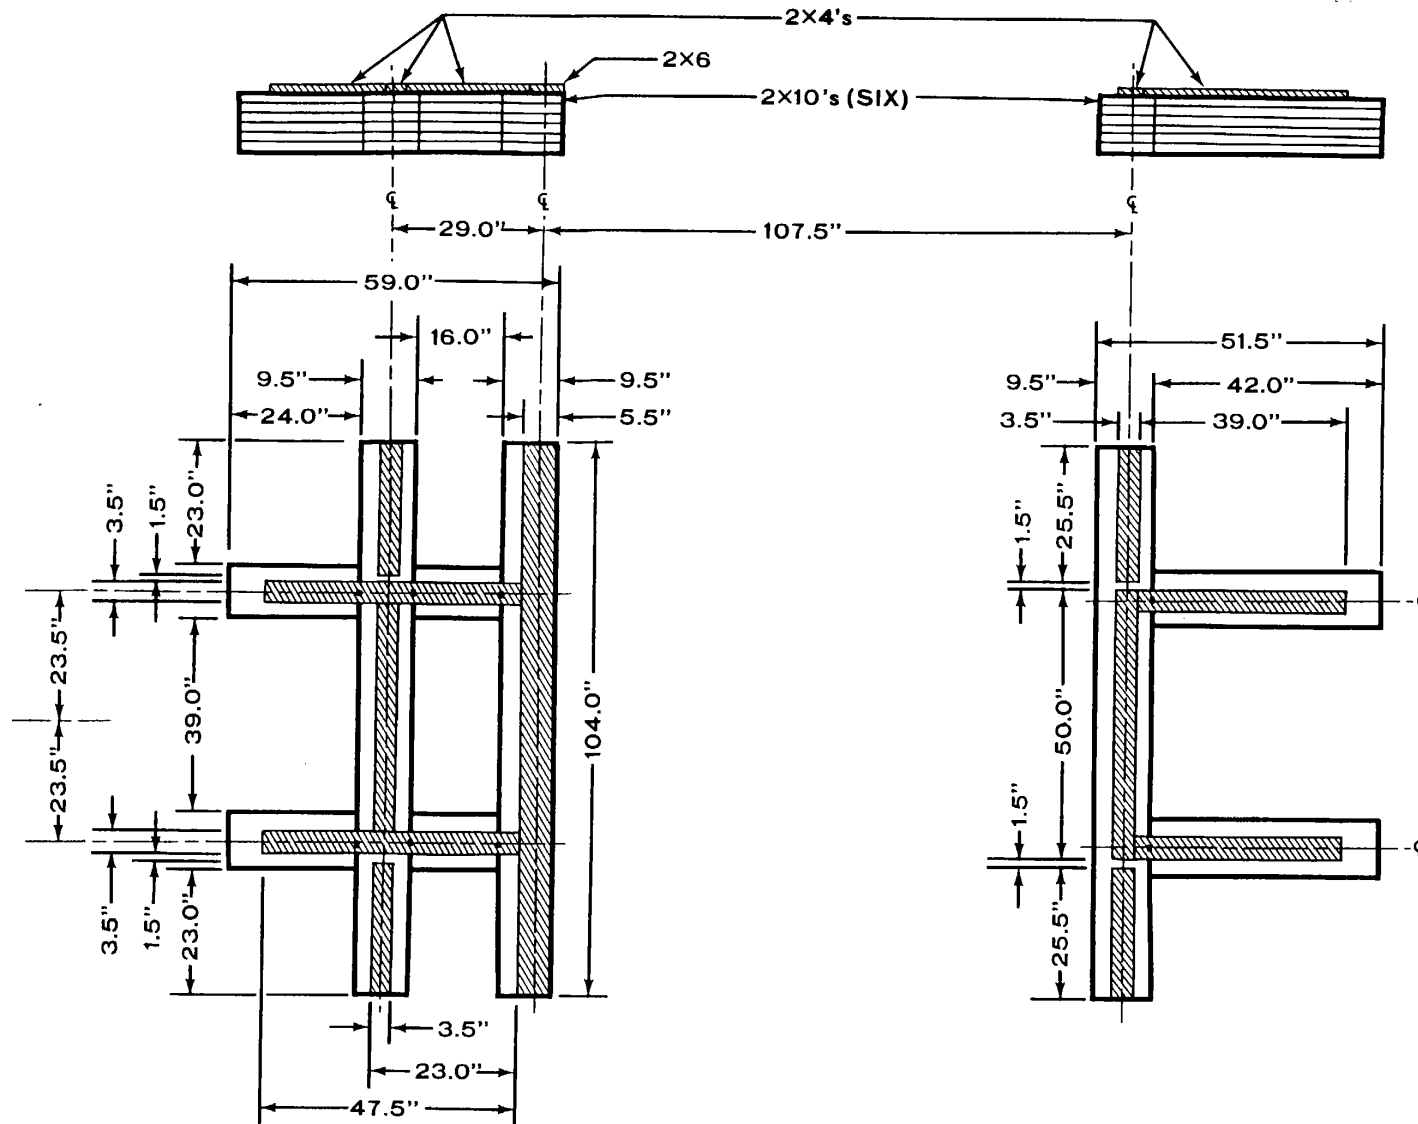

Figure 4-10. Support shoring assemblies required for pallet/platform loading the RS for transport in C-141B aircraft.
d. Loading of the RS into the C-141B aircraft requires sectionalization into three major components. Loading of the M983 is as described in paragraph 4-7b and figure 4-8. The M860A1 semitrailer loading method is described in paragraph 4-7e. When removed from the M860A1, the RS shelter requires special support shoring to protect the outer azimuth bearing ring of the pedestal mount. Forward and aft supports for air transport are shown in figures 4-10 and 4-11. After stow locking the antenna, lift the RS (as shown in fig 65) from the M860A1 semitrailer. Place the support shoring 107.5 inches apart on three HCU-6/E pallets or on one 20-foot metric pallet. Place the RS on support shoring so it will face forward in the aircraft. Secure the RS with two tiedowns per pallet side to maintain alignment during loading. The pallet-loaded RS is transported to and loaded into the C-141B aircraft with either a 25K or 40K-loader. Position the aircraft ramp even with the aircraft floor. Then, align loader with aircraft ramp. Using two 25,000-pound chains from the MB-2 tiedown devices, form a towing bridle through the lower towing